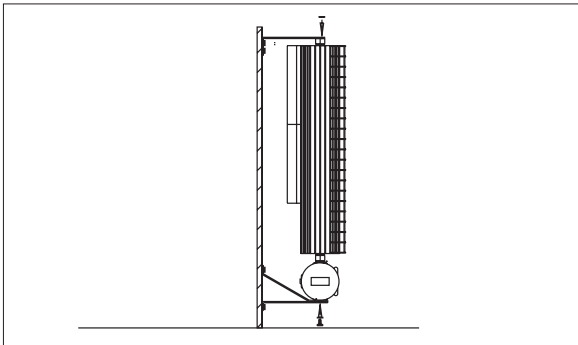
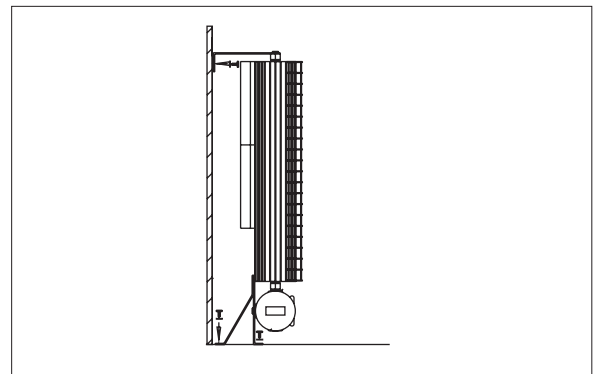

Figure 5 – Attach heater to mounting brackets
Figure 8 – Attach heater to floor and wall
Step 3: Secure bottom of heater to wall mounting brackets with supplied 1/4"-20 hex bolts and lock washers (Figure 5).
Step 3: Lift top of unit and position heater vertically against the wall. Secure stabilizing and floor mounting brackets to the mounting surfaces (Figure 8).
To ensure safe operation, heater must be installed, as shown in Figure 5 and Figure 8. Installation with fins in the incorrect orientation may result in an unsafe condition (refer to Table 1, page 4).